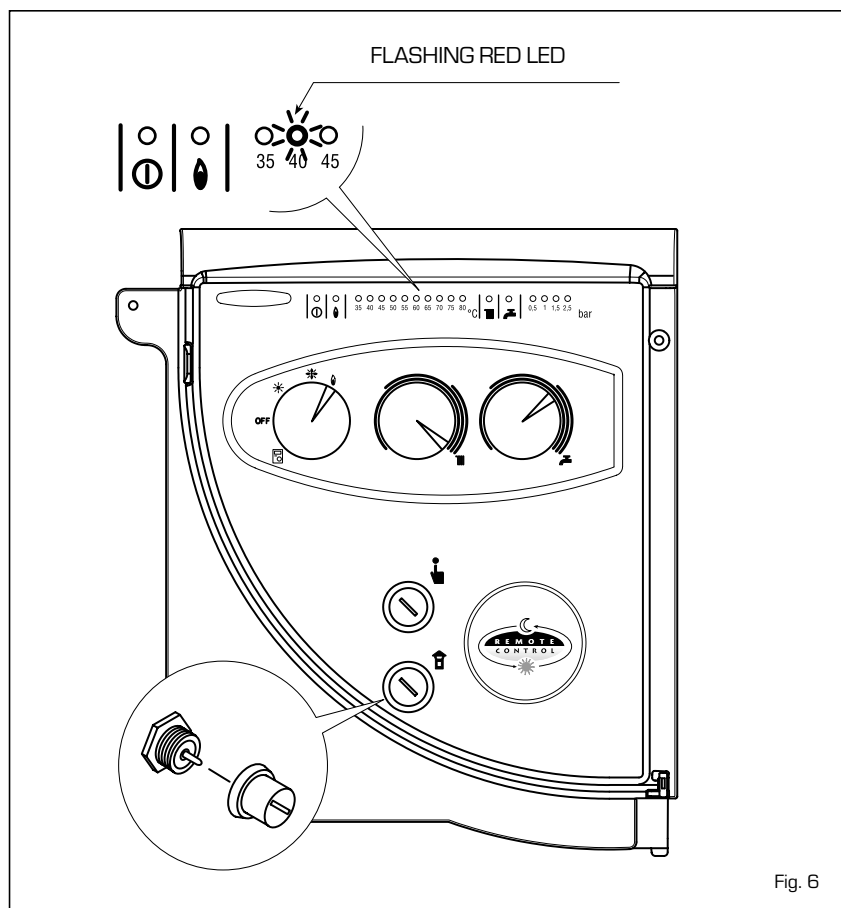

Fig. 6
- **Smoke safety device interception** (fig. 6)